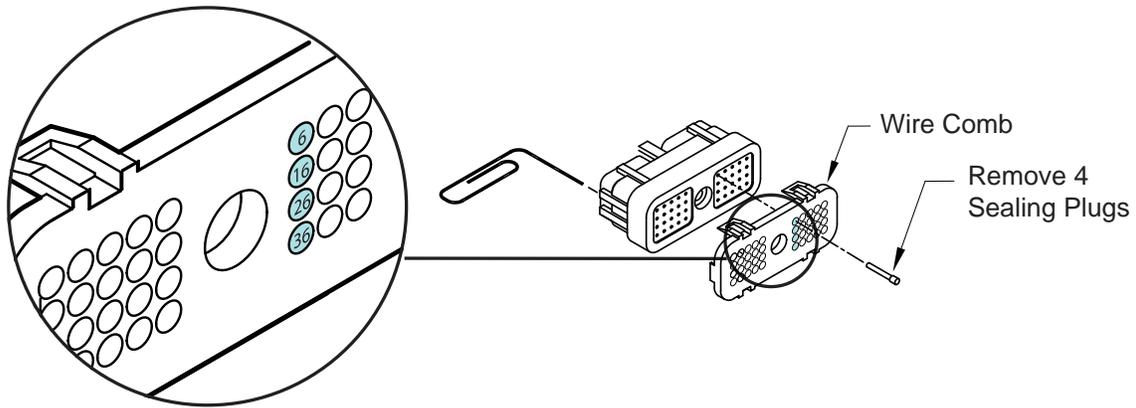

Figure 7. Remove 4 Sealing Plugs
- To remove the sealing plugs from pins 6, 16, 26, and 36 from the wire comb (see Figure 7), insert a large paper clip, or something similar into the mating end of the connector, and push out the sealing plug.